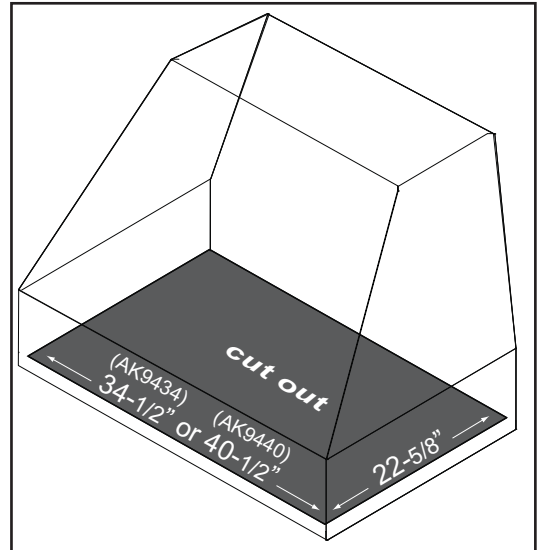

FIG. 1
2. Cut out an opening in the bottom of the cabinet by following the dimensions in FIG. 1. If ducting the liner horizontally, also cut out an opening in the back of the cabinet (if applicable). FIG. 2.